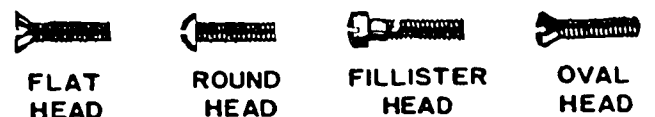

Figure 2-27. Machine screws.
**Machine Screws.** The term "machine screw" is the general term used to designate small screws that may be used in tapped holes or with nuts. Most machine screws have fine threads and are made of steel or brass; they may be plated to prevent corrosion. A variety of diameters, lengths, and head shapes are manufactured, some of which are shown in figure 2-27. When you order or draw machine screws from supply, the kind of head, diameter, threads, length, and finish are required to determine the stock number. For example: screw, machine, roundhead, 3"-32 by 1", cadmium plated. Figure 2-28 is a list of American (National) screw thread sizes and tap drill sizes.